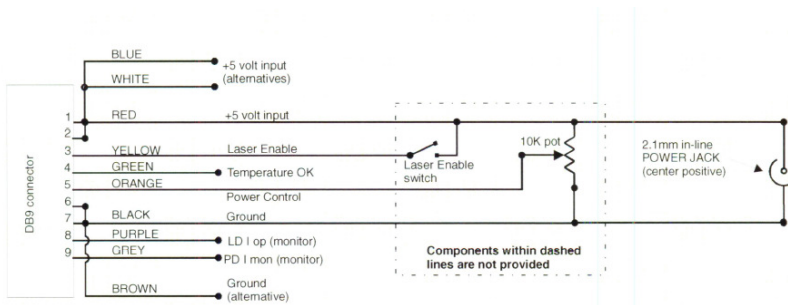

Figure 1 – Wiring Diagram – Wire Harness
2. Enable the interlock by applying 5VDC to pin 3. If using the supplied wire harness, connect pin3 to pin 1 or 2 of the DB9 connector, see Figure 1. 10 Sec later the upper LED will illuminate and the LCD indicate “LASER ON”. Interlock maintains laser temperature when disabled. DO NOT EXCEED 5VDC.
3. Adjust power level by applying external analog signal voltage to pin 5 of the DB9 connector. 0 volts corresponds with maximum optical power while 5 volts corresponds to minimum power. 0-5V can be obtained by connecting a potentiometer across the pin 1, 5 and 7 (5V, Power Control, Ground) as shown in Figure 1. This pin could be modulated at a maximum rate of 100kHz.